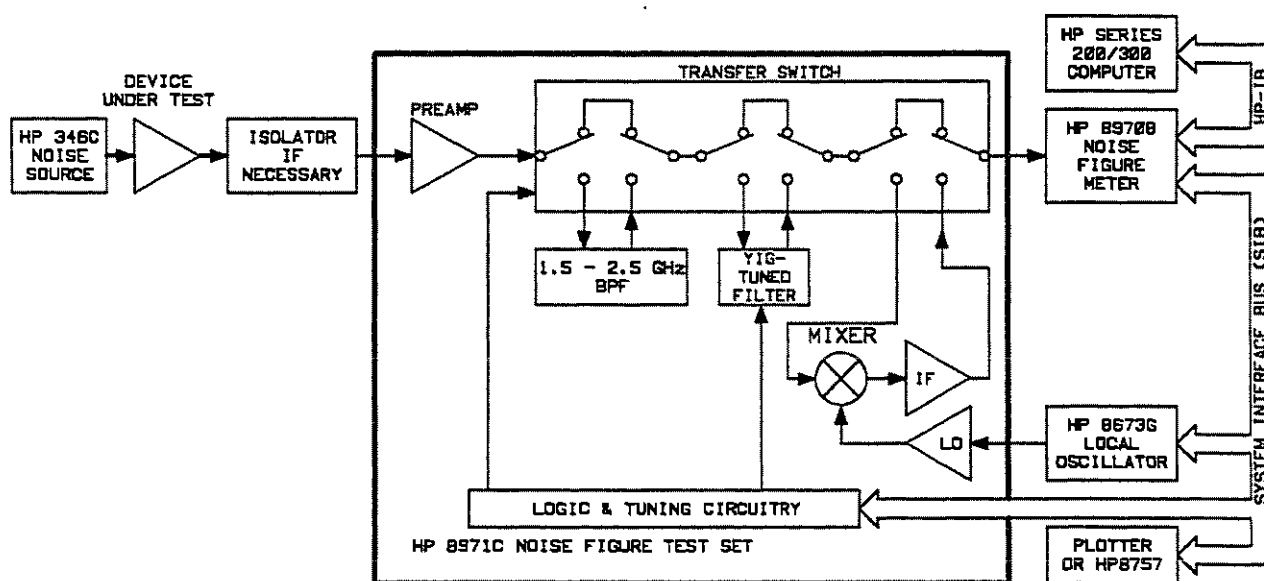

Figure 8-1. HP 8970S/U Noise Figure Test System
The HP 8971C Noise Figure Test Set is an integral part of the HP 8970S/U Noise Figure Test System (see figure 8-1). The HP 8971C extends the frequency range of the HP 8970B Noise Figure Meter to 26.5 GHz. If the signal under test is above the Noise Figure Meter's high frequency limit of 1600 MHz, the Test Set down-converts the signal to an intermediate frequency (IF). The IF signal has noise characteristics virtually identical to the test signal, and is routed to the HP 8970B for noise figure measurement. The particular IF chosen by the Test Set is dependent upon the measurement mode.